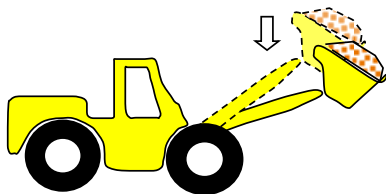

Figure 9
7. Loader operator backs away from pile and lowers bucket as low as possible. (See Fig. 9)